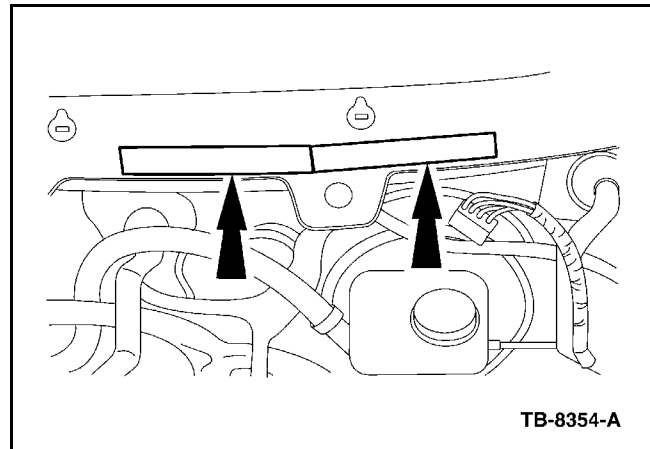

Figure 6 - Article 088-2005-5551
11. Place two of the cut pieces of the PVC soft foam adhesive stripes on the metal body surface over the transaxle area. The two ends need to touch, do not allow any gap between the two ends (Figure 6).